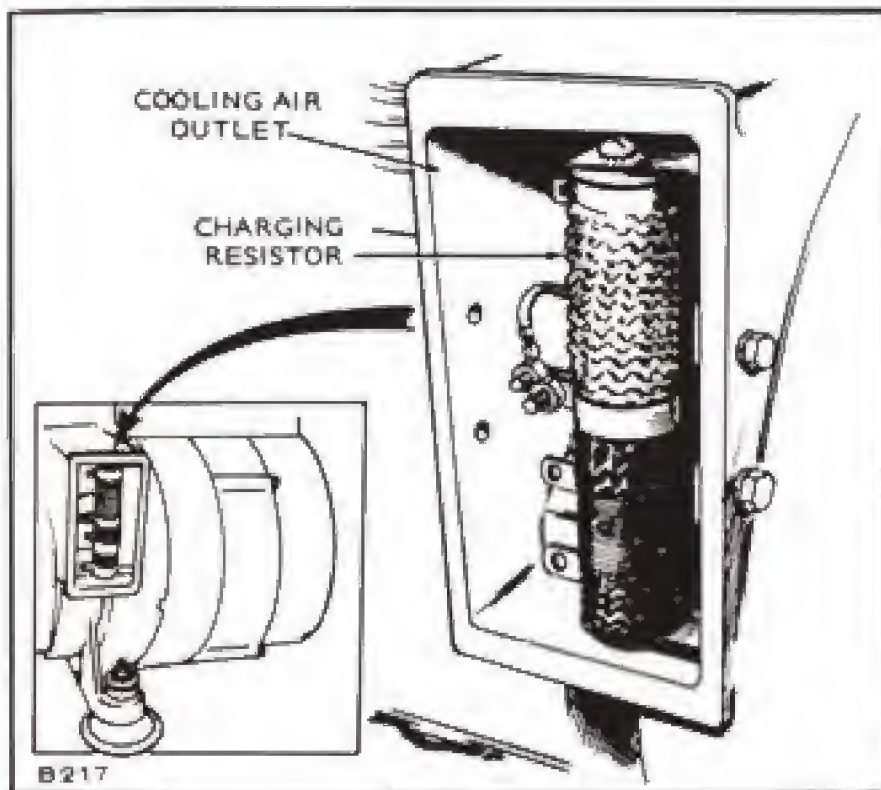

FIGURE 4-34. GENERATOR AIR OUTLET
3. Remove B1 lead from tapped adjustable resistor in generator air outlet opening. Figure 4-34.